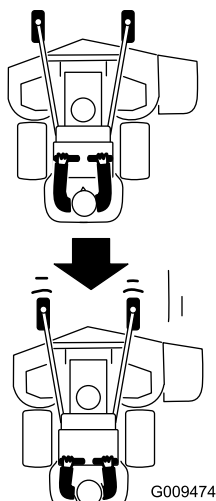

Figure 22
2. Slowly pull the motion control levers rearward (Figure 22).